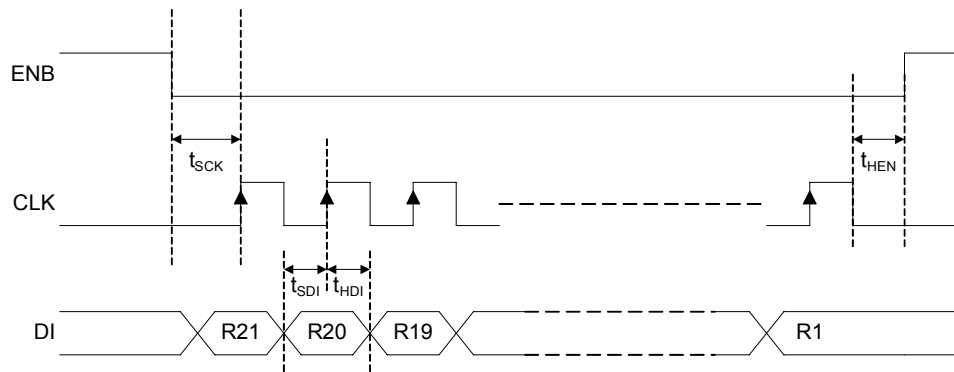

FIGURE 27. TIMING DIAGRAM FOR PROGRAMMING THE INTERNAL REGISTERS OF THE QLx4600-SL30
Pins 16 (DI), 45 (ENB), and 46 (CLK) are used to program the registers inside the QLx4600-SL30. Figure 27 shows an exemplary timing diagram for the signals on these pins. The serial bus can be used to program a single QLx4600-SL30 according to the following steps:
The DO pin (pin 17) can be used to daisy-chain the serial bus among multiple QLx4600-SL30 chips. The DO pin outputs the overflow data from the DI pin. Specifically, as data is pipelined into a QLx4600-SL30, it proceeds according to the following flow. First, a bit goes into shadow register 1. Then, with each clock cycle, it shifts over into subsequent higher numbered registers. After shifting into register 21, it is output on the DO pin on the same clock cycle. Thus, the DO signal is equal to the DI signal, but delayed by 20 clock cycles. The timing diagram for the DO pin is shown in Figure 27 where the first 20 bits output from the DO are indefinite and subsequent bits are the data fed into the DI pin. The delay between the rising clock edge and the data transition is t_{CQ} .